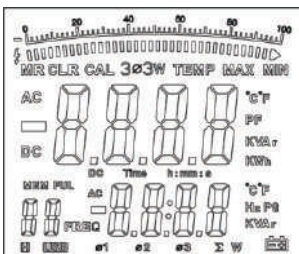

Figure 3
7. DISPLAY SYMBOLS (See figure 3)